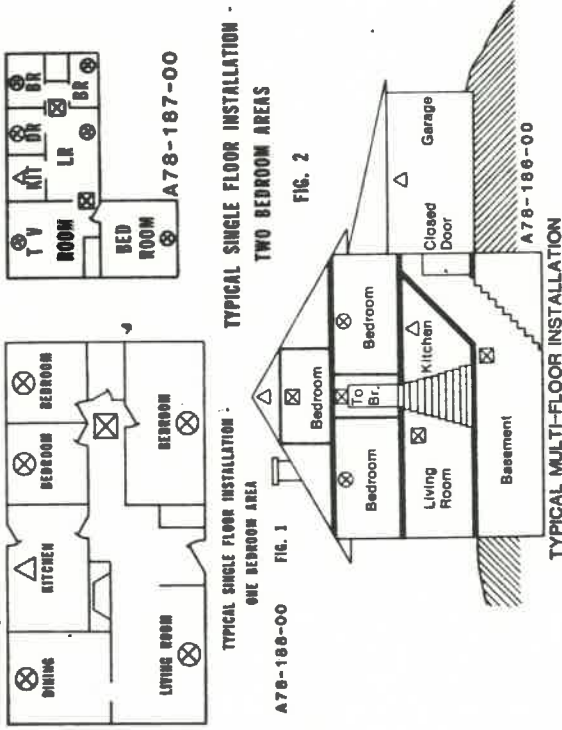

Figure 3
1. Between sleeping areas and potential sources of fire such as the kitchen, garage, basement or utility room. In homes with only one sleeping area on one floor, a detector should be put in the hallway outside the bedrooms as shown in Figure 1. In single floor homes with two rooms as shown in Figure 1. In single floor homes with two separate sleeping areas, two detectors are required, one outside each bedroom area as shown in Figure 2. In multi-level homes, detectors should be located in bedroom areas and at every finished level of the home as shown in Figure 3. Basement level detectors should be located in the bottom of basement stairwells. Second floor detectors should be located at the top of the first-to-second floor stairwell so long as no door or other obstruction blocks the path of smoke.